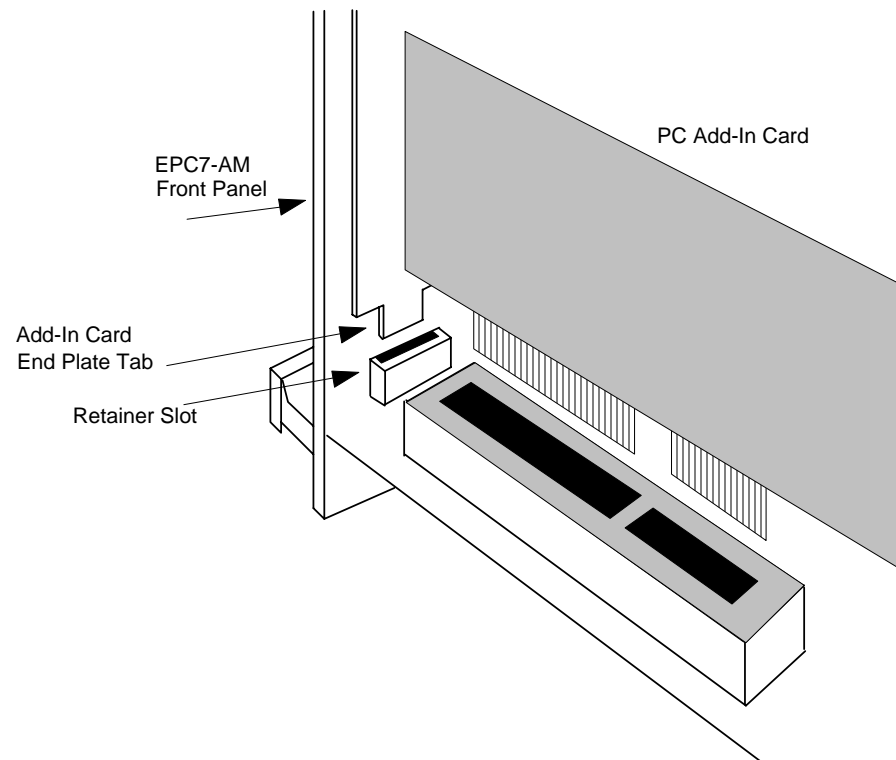

Figure C-4. Cut-Away Diagram Showing Retainer Slot.
- Slide the add-in card down so the care-edge inserts into the card-edge connector. Make sure that the tab on the bottom of the metal add-in card end plate seats into the retainer slot of the EPC7-AM as shown in Figure C-4 below.
To remove the front panel, start by prying off the name plates on the top and bottom handles of the EPC7-AM. This exposes two screws that hold the top and bottom handles in place. Remove both screws. Note that removing the screw on the bottom handle will cause the retainer slot on the inside of the front panel to fall off. Refer to Figure C-4, above. Next, remove the four corner screws that hold the front panel to the top and bottom rails. You can now remove the front panel itself and install the add-in card as described earlier.